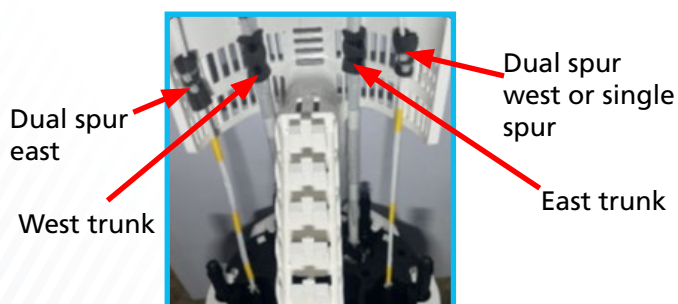

Figure 42
1. Secure the fibres to the basket using foam and cable ties or velcro (figure 42).